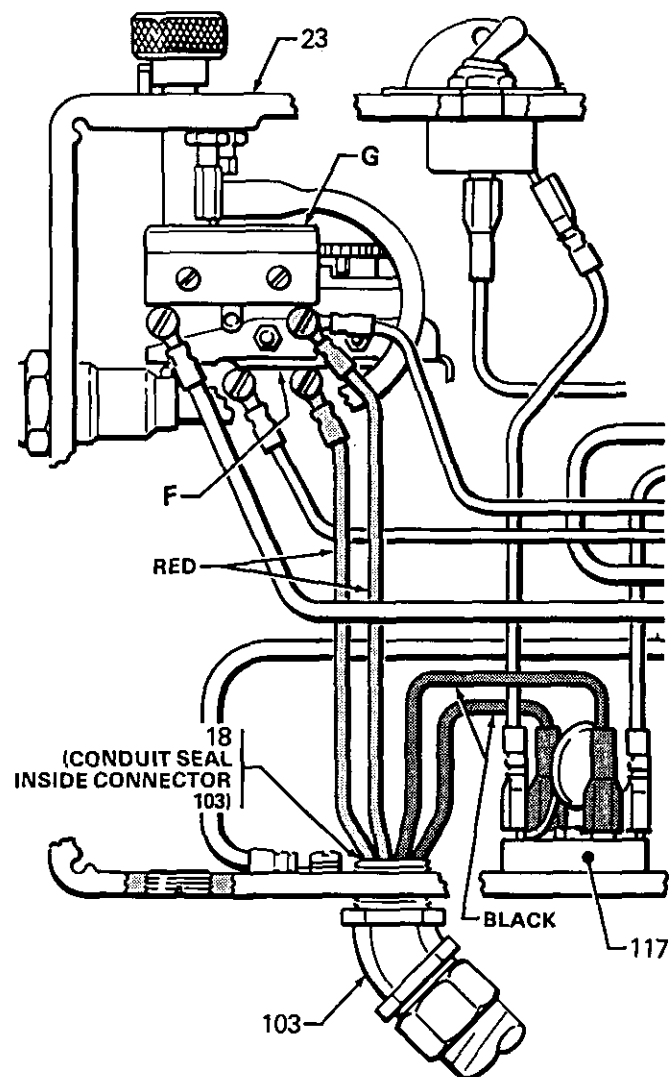
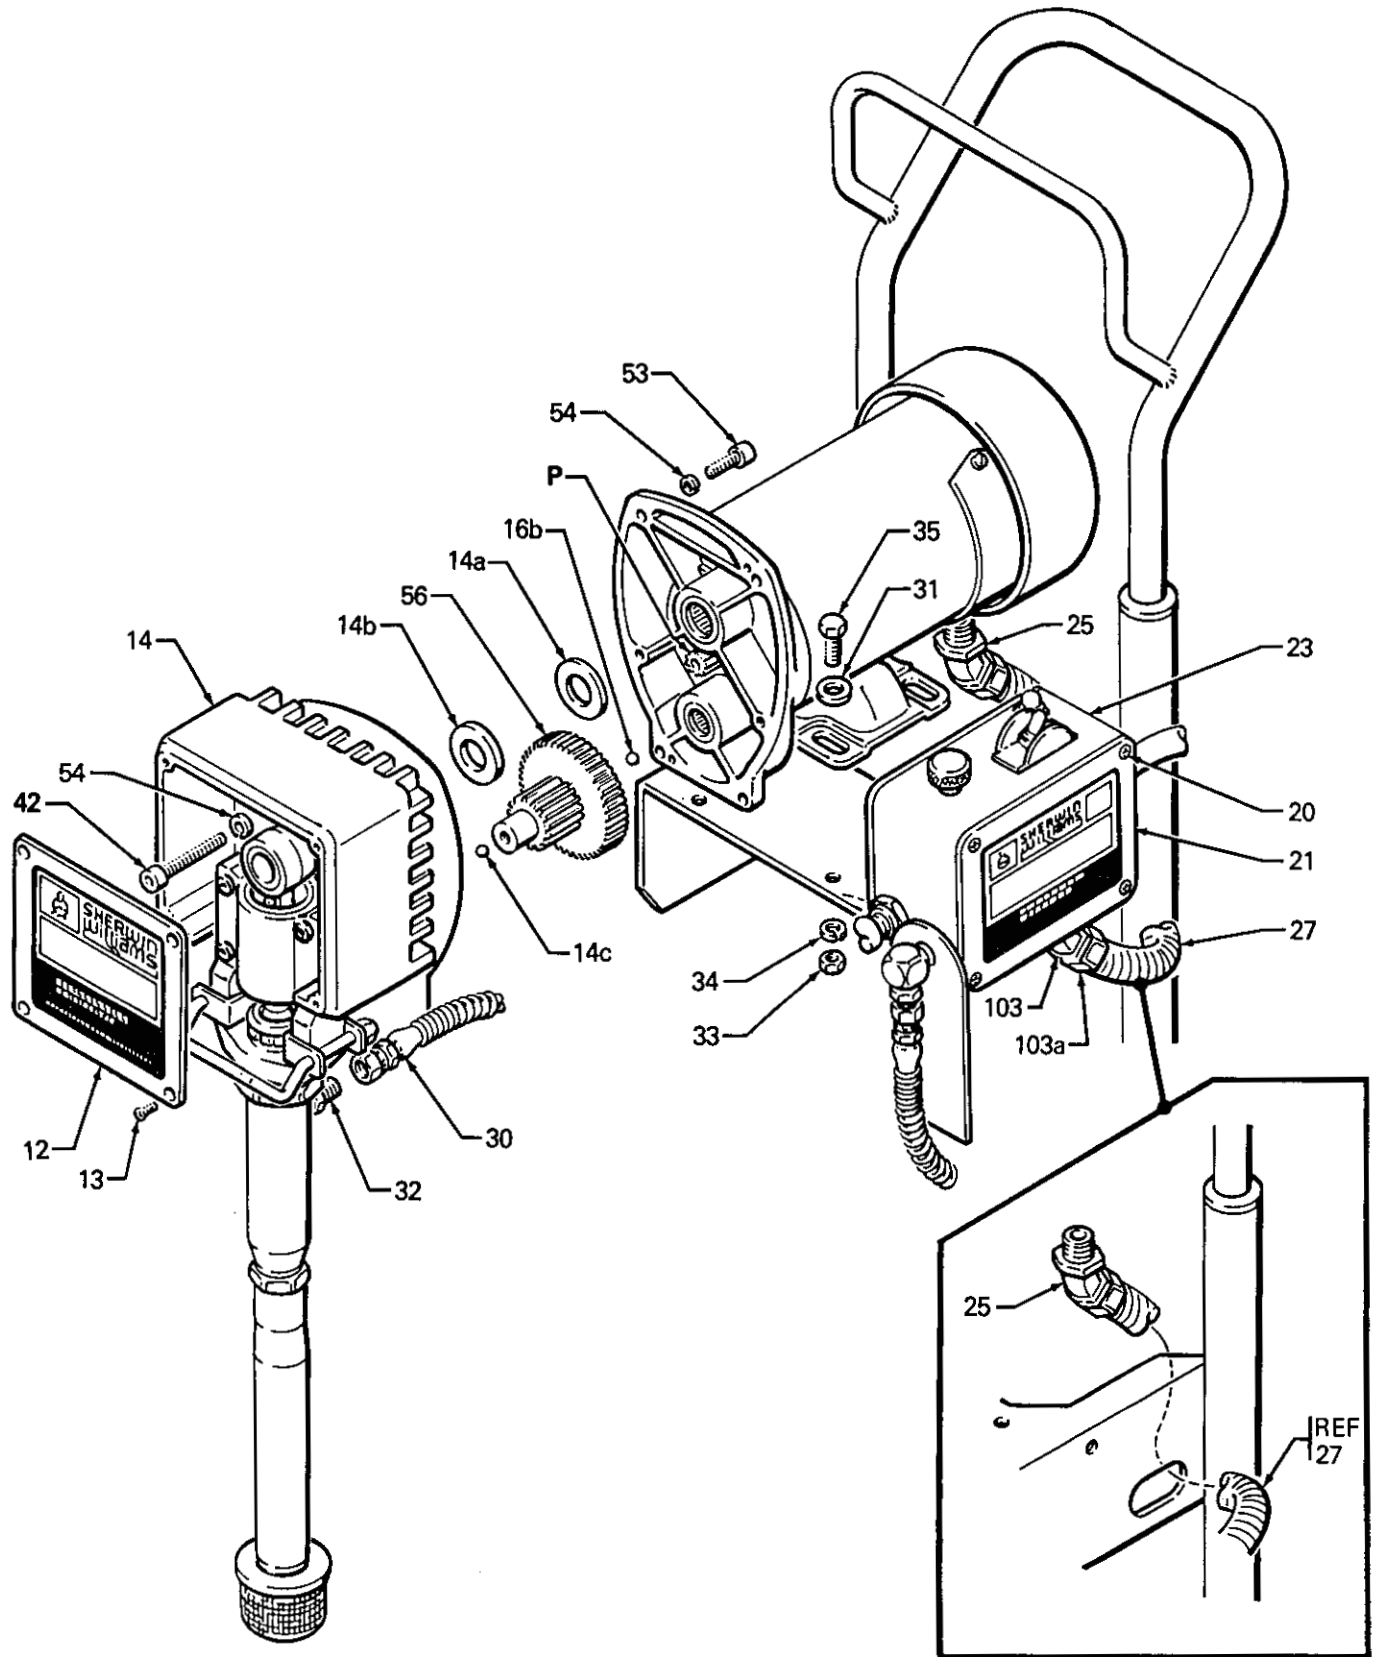

Fig 17
Fig 18
Be sure the retaining spring (49) is firmly in the groove of the connecting rod, *all the way around*, to prevent the pin (50) from working loose due to vibration. See Fig 18.
## MOTOR REPLACEMENT (Refer to Figs 17 and 18)
1. Disconnect the pump outlet hose (30) from the displacement pump outlet nipple (32).
2. Remove the screws (20) and pressure control cover (21). See Fig 18. Disconnect the four motor leads: a red one from the pressure switch (F), a red one from the over-pressure switch (G), and two black ones from the rectifier (117). See Fig 17.
3. Use an adjustable wrench to loosen the conduit connector nut (103a) at the pressure control assembly (23).
4. Swing the conduit (27) away from the conduit elbow (103).
5. Remove the conduit seal (18) from around the wires in the pressure control. Pull the motor leads through the elbow, one at a time.